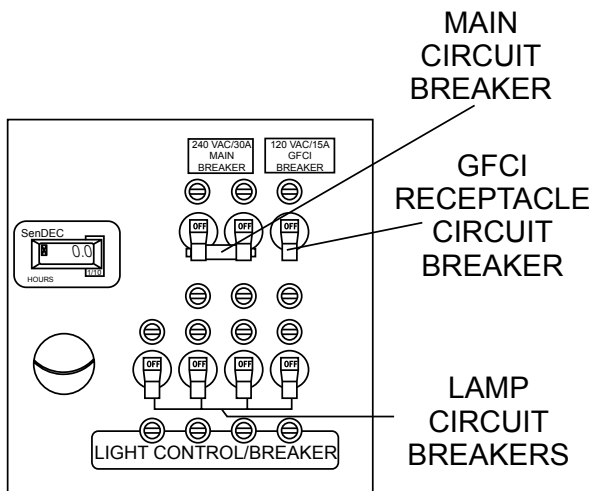

Figure 26. Control Panel Circuit Breakers
2. The main circuit breaker (25 amps) and 4 lamp circuit breakers (10 amps each) are located on the upper control panel (See Figure 26) . Each lamp has a 10-amp circuit breaker.
3. Place the main circuit breaker (Figure 26) on the control panel to the ON position.
Your control panel may be slightly different than that shown in Figure 26.